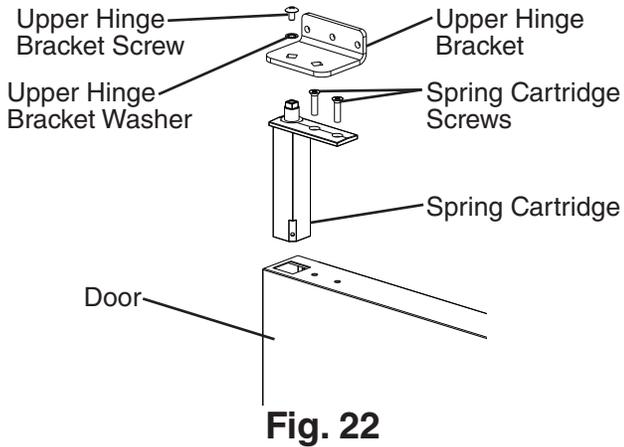
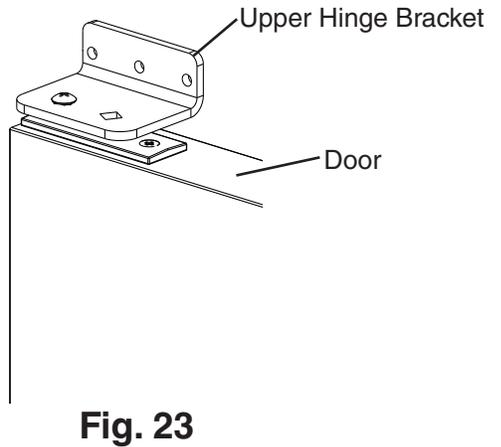

Fig. 22
Fig. 23
8) Clear foam from the spring cartridge hole to allow for spring cartridge installation. Install the spring cartridge and secure it to the door using the spring cartridge screws removed in step 6. See Fig. 22. Next, align the upper hinge bracket to the door in the orientation that allows for closed door installation. See Fig. 23. Secure the upper hinge bracket to the door using the screw and washer removed in step 6.